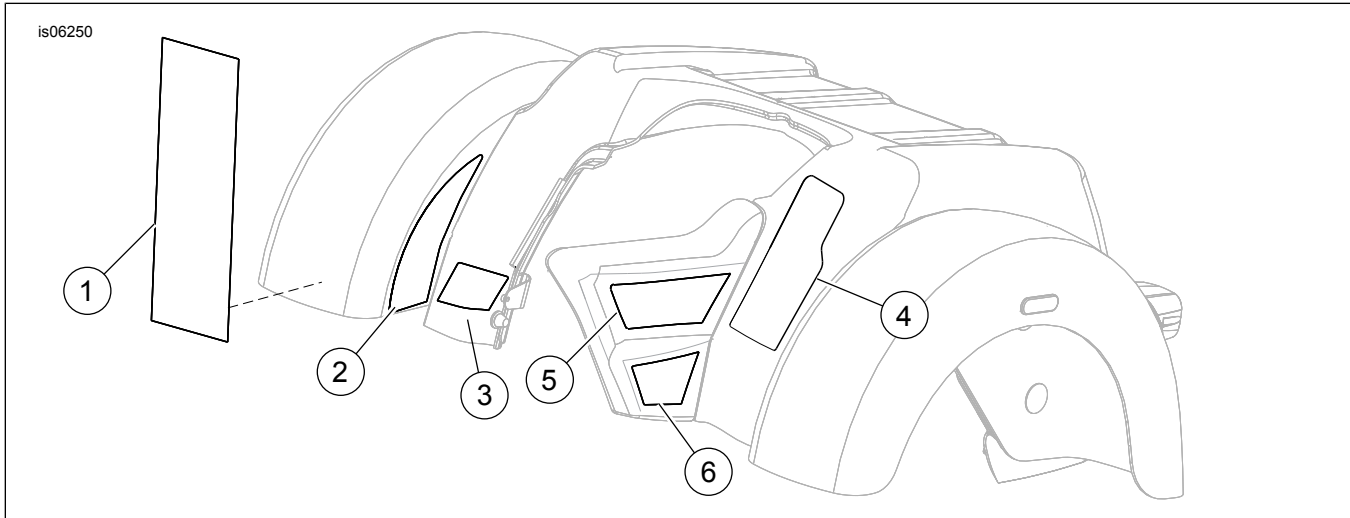

Figure 1. Service Parts: Paint Guard Kit
See Figure 1 and Table 1.
2. See Figure 1. Wash all mounting areas thoroughly. Allow to dry completely.
- See Figure 1. Identify each paint guard piece and its mounting location before proceeding. Some pieces, such as body lower (3), are side-specific.